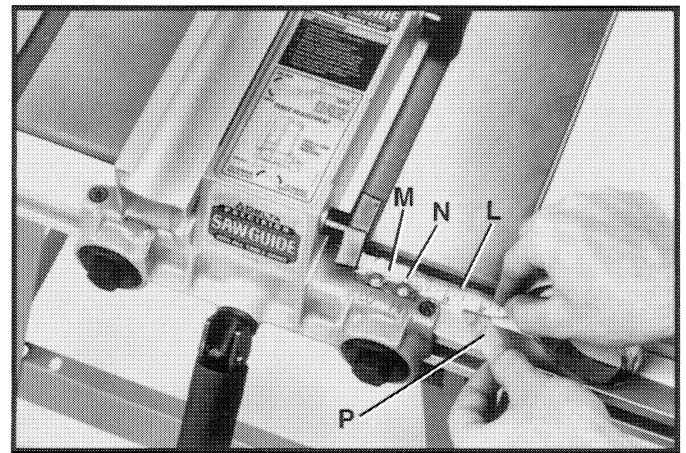

Fig. 56
2. Peel approximately 1" or 2" of the adhesive backing (P) Fig. 56, from measuring scale (L) and carefully position scale under cursor (M) until the zero mark on scale (L) lines up with the right witness line (N) on cursor. **NOTE:** Witness line (N) Fig. 56, indicates the distance the fence is away from the blade when the fence is in the **vertical** (high) position.
3. Continue to pull adhesive backing (P) Fig. 56, from scale (N) while applying and pressing down on scale on the entire length of rail.